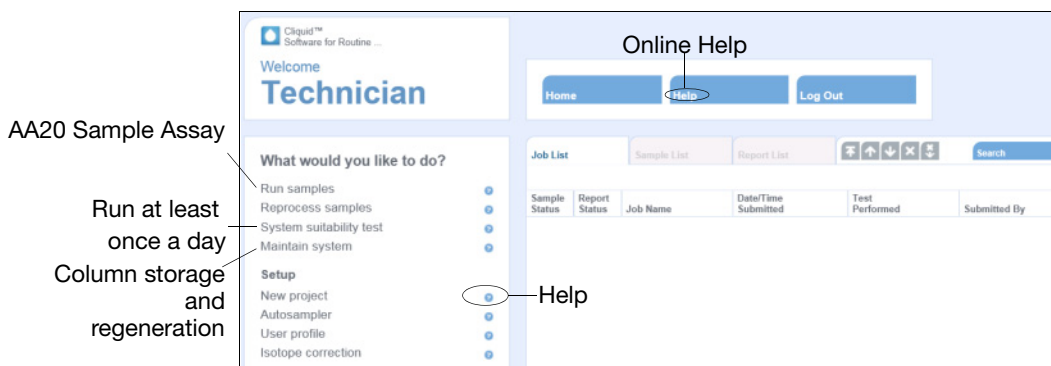

Figure 7 Features of the Home page for a lab technician
3. If necessary, perform column regeneration. To perform column regeneration using Cliquid Software, select **Maintain system** (Figure 7 on page 27; see Help for more information).
- Enter your login information, then click **Get Started**. For a lab technician, the Home page that opens is shown in Figure 7. (The Home page for a lab manager displays additional tasks.)
- In the Cliquid Software Home page (Figure 7 on page 27), select **System suitability test**.
1. In the Cliiquid Software Home page (Figure 7 on page 27), select **Isotope correction**. The Isotope page opens.
1. In the Cliquid Software Home page (Figure 7 on page 27), click **New project** to open the New Project screen.
1. In the Cliquid Software Home page (Figure 7 on page 27), select **Run samples**.